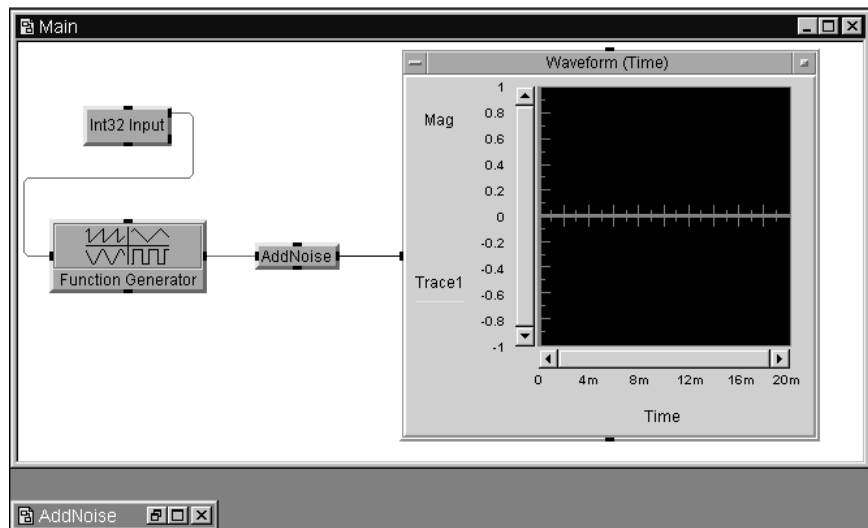

Figure 46 Int32 Input Added to usrobj-program.vee
- 4 Connect the top output pin of the Int32 Input object to the input pin on the Function Generator. Notice that Frequency can only be changed through the input pin now, and you can no longer edit the Frequency input field. The program should look like Figure 46.